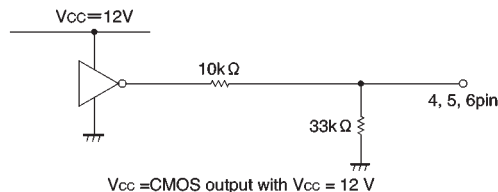

Fig.7
(1) Though the IC input pins can be directly connected with MOS output pins, it is recommendable to connect resistors of about 3 ~ 30k Ω between the pins for the sake of pin protection (see Fig. 7).
(2) When reversing the rotational direction of a motor, make sure to go through the brake mode in-between the opposite directions. It is recommendable to keep the brake mode for at least 10 μ s.
(3) Powering procedures should be designed so that V_{CC1} (pin 7) always rises first and falls last.
(4) The quality of these products have been carefully checked; however, use of the products with applied voltages, operating temperatures, or other parameters that exceed the absolute maximum rating given may result in the damage of the IC and the product it is used in. If the IC is damaged, the short mode and open modes cannot be specified, so if the IC is to be used in applications where parameters may exceed the absolute maximum ratings, then be sure to incorporate fuses, or other physical safety measures.
(5) Input pins